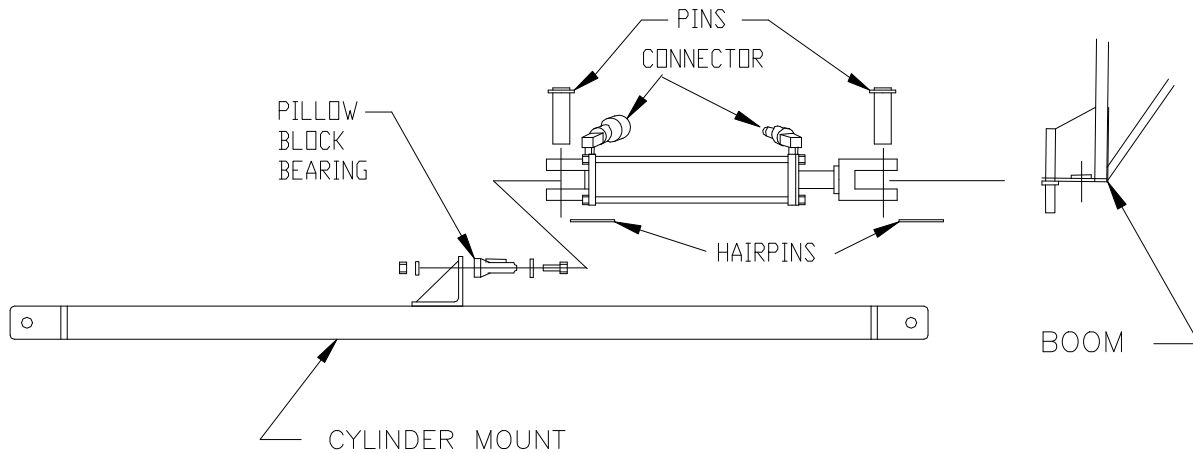

Figure 3-6.
2. Mount the Cylinder assembly to the Cylinder Mount Brace using the 3/8" x 1-1/2" bolt, washer, star washer, and hex nut hardware provided. Use pin and hairpin to attach the other end of assembly to the collared boom plate. If mounting the Cylinder Pillow Block separately (as in a replacement situation), mount this block with the center hub protruding upward. The extending part of the Cylinder must be toward the Boom. See Figure 3-6.